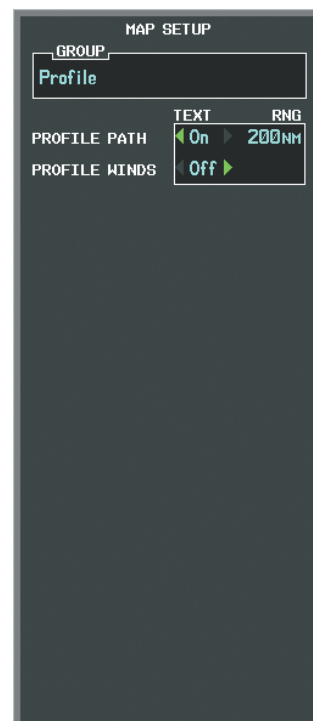

Figure 6-73 Navigation Map Page Setup Menu, Profile Group
- 5) Turn the large **FMS** Knob or press the **ENT** Key to scroll through product selections (Figure 6-73).